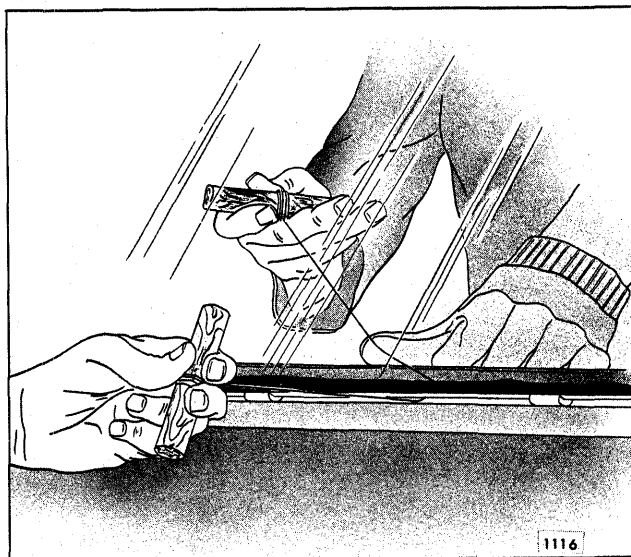

Fig. 11-6-Cutting Adhesive Material
6. If music wire is used to cut adhesive material, secure one end of wire to a piece of wood that can serve as a handle. Using long nose pliers, insert other end of wire through adhesive material at edge of glass; then, secure that end of wire to another wood handle (Fig. 11-6).
7. With aid of helper, carefully cut (pull wire) through adhesive material around entire perimeter of window. If "short method" will be used to install new glass, hold wire or cutting tool close to inside plane of glass to prevent cutting an excessive amount of adhesive material from window opening. Keep tension on wire throughout cutting operation to prevent wire from kinking and breaking (Fig. 11-6).